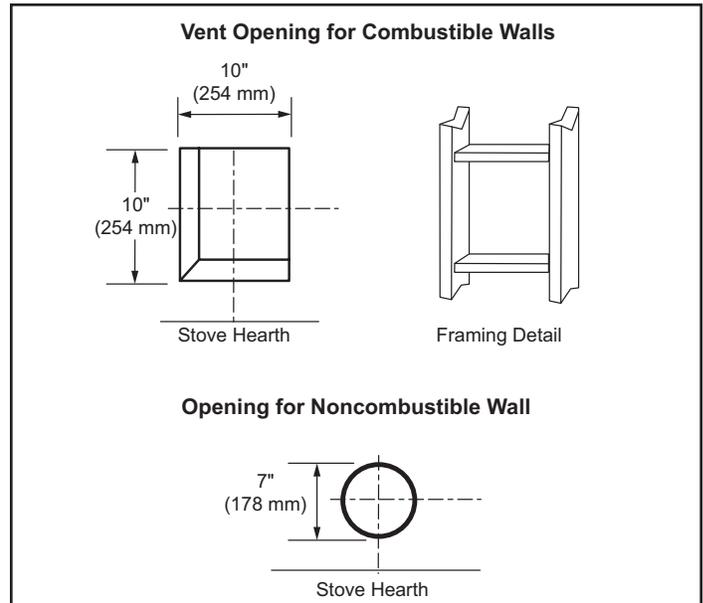

Figure 3.11 - Locate Vent Opening on Wall
1. Locate vent opening on the wall. It may be necessary to first position the stove and measure to obtain hole location. Depending on whether the wall is combustible or noncombustible, cut opening to size, Figure 3.11 (For combustible walls first frame in opening.) Combustible Walls: Cut a 10" x 10" (254 x 254 mm) hole through the exterior wall and frame as shown, Figure 3.11. Noncombustible Walls: Hole opening must be 7" (178 mm) in diameter.